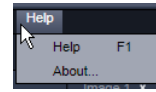

Fig. 7-16 Data type selection
- Select the data type which the image is to be exported under **Data** (Fig. 7-16).